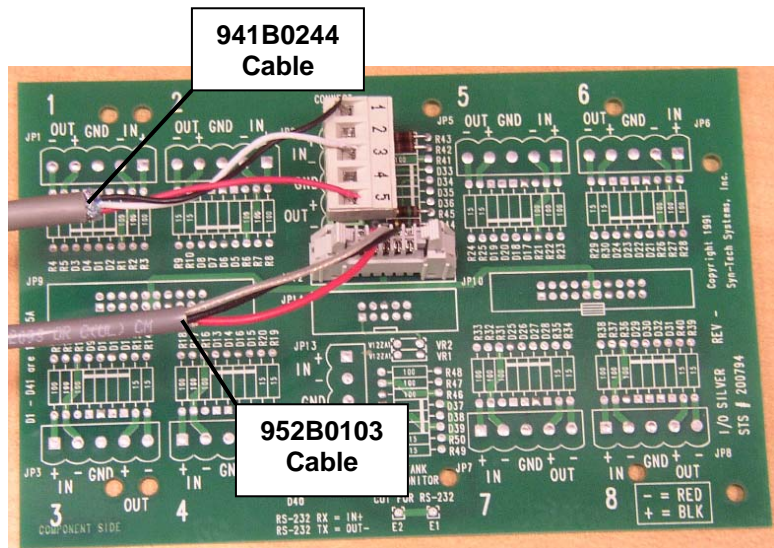

Fig. H-3. I/O Silver Board
2. I/O Silver Board (Fig. H-3, STS part number 221813), mounts on standoffs over the FMU Pedestal I/O Board.
I/O Silver Board. The I/O Silver Board (part number 221813, Figure H-3) may be configured for several different applications as well as the Electronic Dispenser Interface. This board must have, as a minimum, a JP11 connector for the 941B0244 cable connection, and a JP12 connector for the 952B0103 cable connection. There is another application which has a JP11 and JP12 connector, the Indoor Receipt Printer board. This board has part number 203610, and does not incorporate the necessary components (other than the connectors) to provide the Electronic Dispenser Interface function.